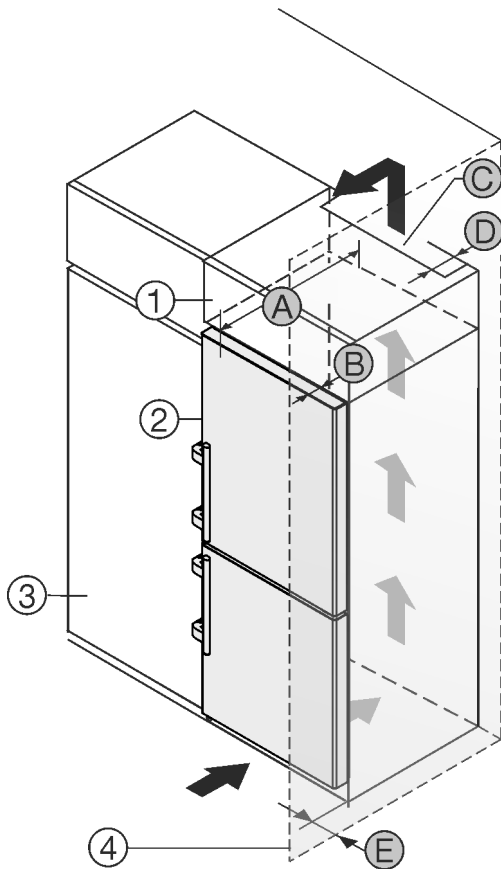

Fig. 1
You can place the appliance directly beside the kitchen cabinet Fig. 1 (3).
There must be a ventilation shaft at the depth Fig. 1 (D) of the back of the top cupboard over the entire width of the top cupboard.
The cross section of the ventilation gap Fig. 1 (C) must be maintained below the ceiling.
If the appliance is set up with the hinges next to a wall Fig. 1 (4), the distance between the appliance and the wall must be at least 57 mm (2 1/4 in) . This is how far the handle protrudes when the door is open.
In order to be able to fully open the door, the appliance must protrude by the depth of the door Fig. 1 (B) from the front of the kitchen cabinet. Regardless of the depth of the kitchen cabinets Fig. 1 (3) and use of wall spaces, the appliance can protrude further.